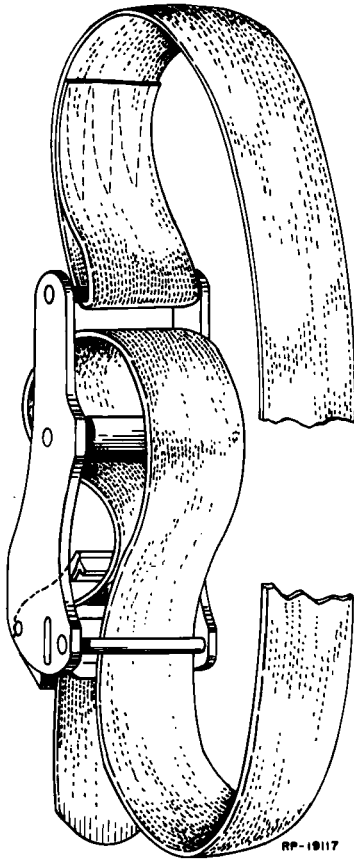
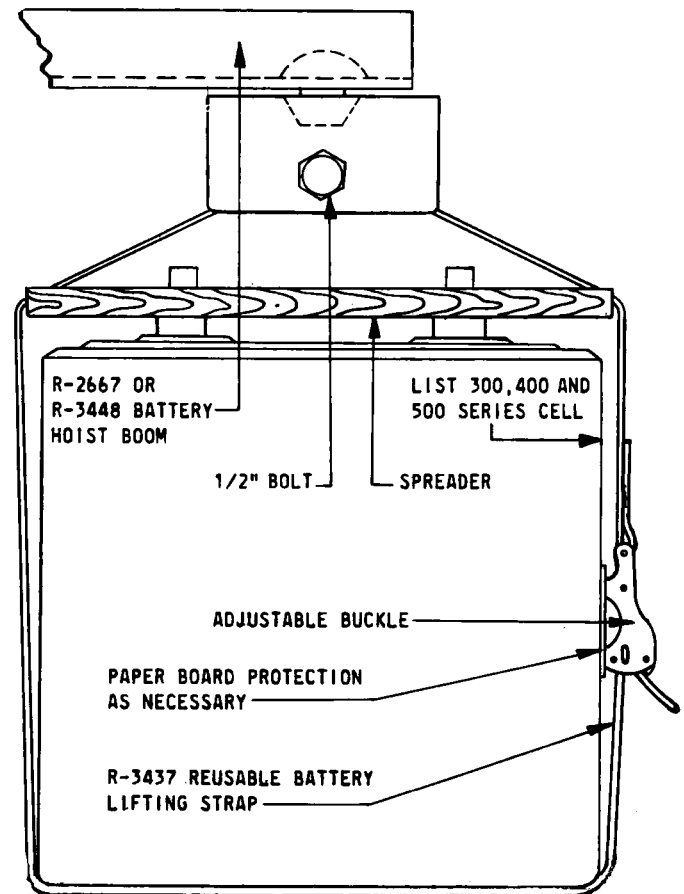

FIG. 1 THREADING THE BUCKLE ON THE R-3437 BATTERY LIFTING STRAP (PARS. 5.1 & 10.3)
FIG. 2 ARRANGEMENT OF CELL, SPREADER, AND STRAP FOR LIFTING (PARS. 5.1, 7.1 & 10.3)
5.1 An R-3437 is a reusable and adjustable battery lifting strap. It is made of Neoprene coated "Dacron" and is furnished as part of the R-2667 Battery Hoist and the R-3448 3 Tier Battery Hoist. If the R-3870 Hydraulic Lift Truck is used, the strap should be ordered separately. It is used for lifting the List 300, 400 and 500 Series cells and smaller sizes of cells as necessary. See Figures 1 and 2.
7.1 A spreader for the lifting strap is provided with each shipment of the same size cell and must be used to prevent the cell from slipping out of the strap during the lifting operation. It also removes pressure from the top edge of the cell container which otherwise may break the seal between the jar and the cover. Spreaders are placed as shown in Figure 2.
10.3 Remove the lifting strap from the box attached to the hoist and thread it as shown in Figure 1. Place the loop over the 1/2" bolt on the hoist boom arranged so that the free end of the strap will hang toward the floor and will be located at the side of a cell to be lifted. Normally it is not necessary to disengage strap and buckle while doing repetitive lifting operations. Place the spreader over the cell posts. Tilt the cell and centrally locate the strap under the cell. Locate the buckle to avoid pressure on the cell. Adjust to required length. Adjusting has been made purposely difficult to insure against slippage in use. See Figure 2.